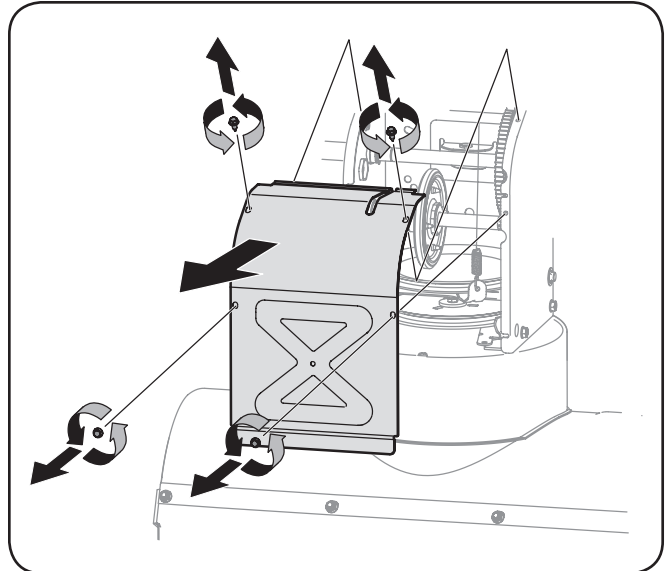

Figure 7-3
5. Remove the frame cover from the underside of the snow thrower by removing the self-tapping screws which secure it. See Figure 7-3.
3. Remove the frame cover from the underside of the snow thrower by removing four self-tapping screws which secure it. See Figure 7-3.